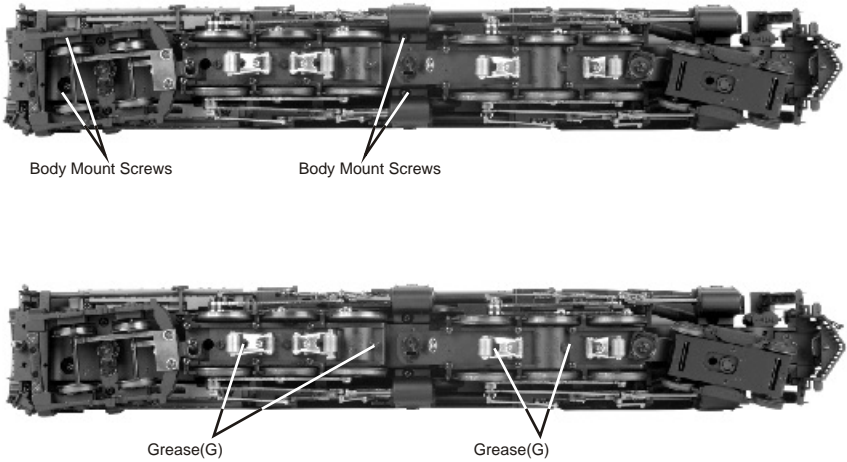

Figure 11. Removing the Body and Lubricating the Grease Points
2. Remove the Phillips screws (marked “GREASE”) located at each set of wheels and under pick up rollers (Fig. 11).
You should also grease the leading and trailing locomotive truck tongues to enhance their ability to slide on the chassis. Follow the grease points shown on Fig. 11.
If you experience poor or no smoke output when the smoke unit is on and has fluid, check the wick to see if it has become hard, blackened, and unabsorbent around the heating element. To remove the smoke unit you will first have to remove the boiler shell (by removing the body mounting screws shown in Fig 11 on pg. 16), board and bracket that block the smoke unit assembly from being accessed. To do this, follow these instructions: